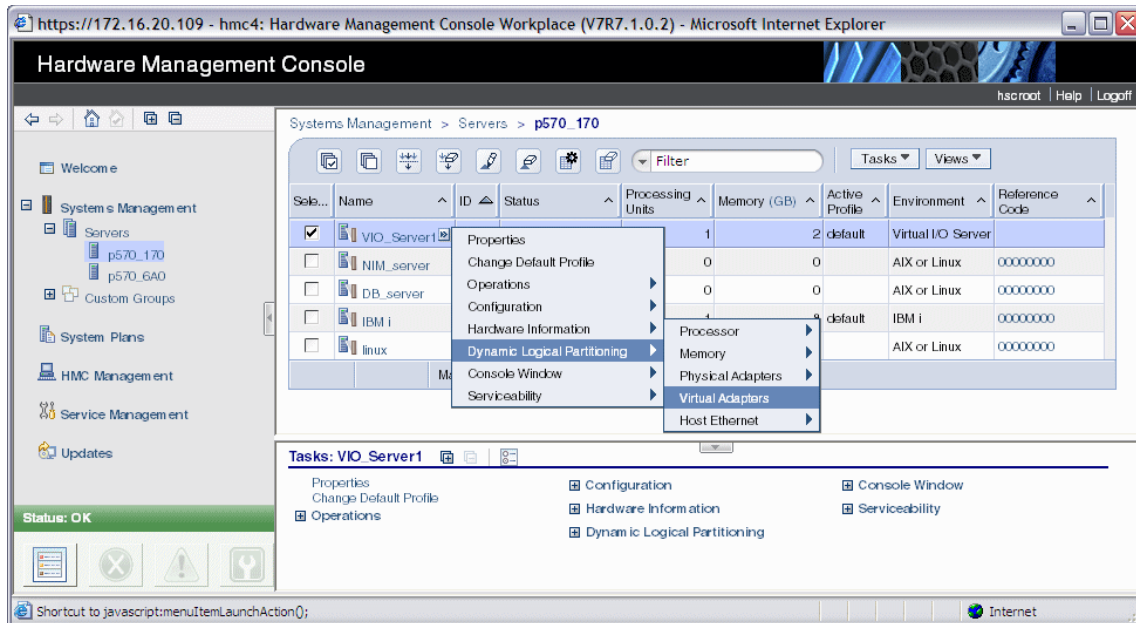

Figure 16-15 Dynamically add virtual adapter
- b. Select the Virtual I/O Server partition on which the Virtual Fibre Channel server adapter is to be configured. Then select from the tasks pop-up menu **Dynamic Logical Partitioning → Virtual Adapters** as shown in Figure 16-15.